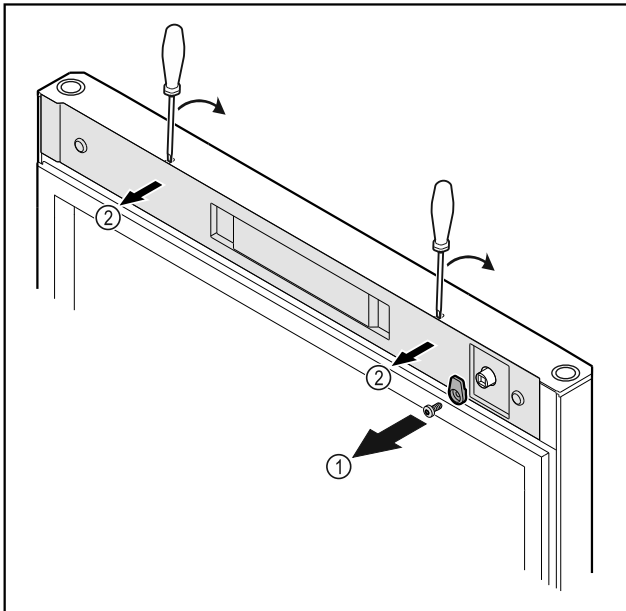

Fig. 14
- Unscrew the door latch Fig. 14 (1).
- Unlatch the cover Fig. 14 (1) with a small screwdriver and remove it.